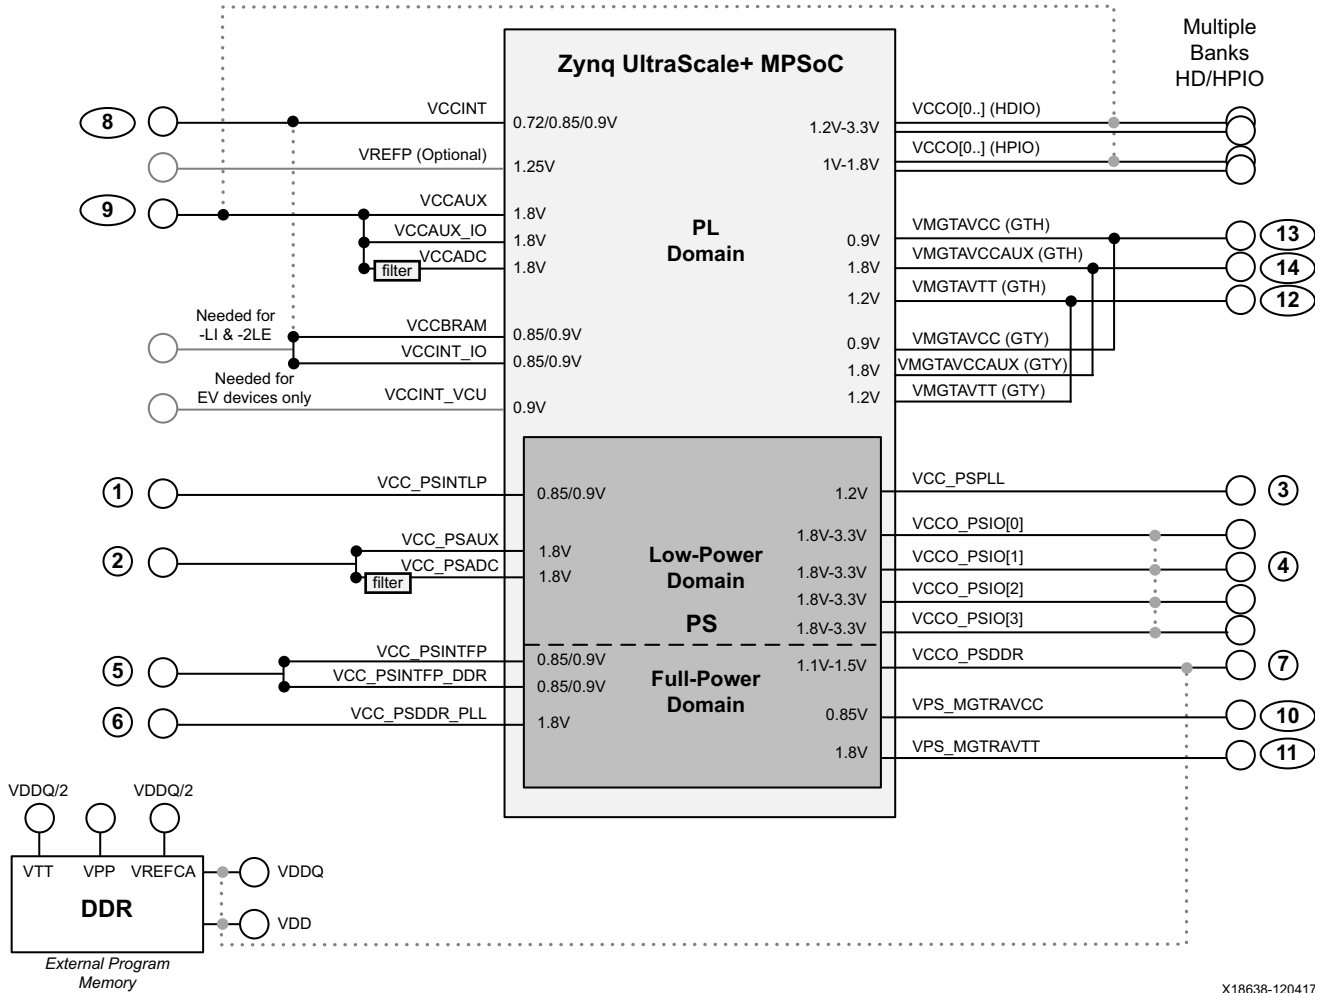

Figure 1-8: Full Power Domain Flexibility Consolidation
Table 1-8 broadly defines the power rail consolidation that is possible for this use case, assuming the decoupling and filtering requirements on the individual supplies as outlined in this document are met. For further clarity, Figure 1-8 shows the possible power rail consolidation graphically. As shown in Table 1-8, the minimum number of power regulators required to power a Zynq UltraScale+ MPSoC in this use case is nine. Alternatively, to achieve the same isolation, a combination of power regulator and load switch could be used, reducing the overall number of power regulators required.
**Note:** In Figure 1-8, the dashed lines are dependent on the user configuration.